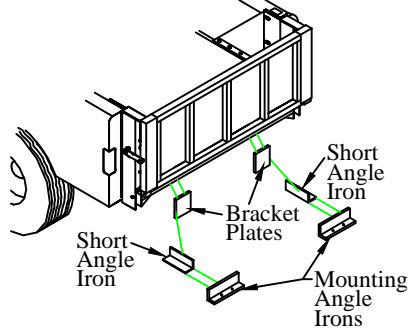

Figure 19: Lower bracket support.
- 2. Bolt** the bracket plates to the truck frame (Figure 19).